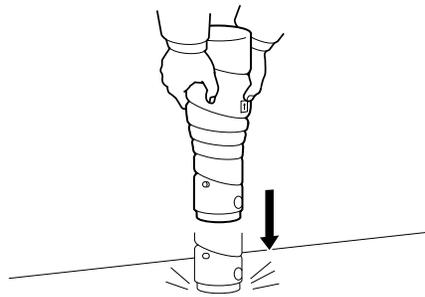

Figure 5-28
1. Tap a new Toner Bottle against a desk or other hard surface four or five times as shown in Figure 5-28. Then turn the Toner Bottle upside down and tap it in the same way again.